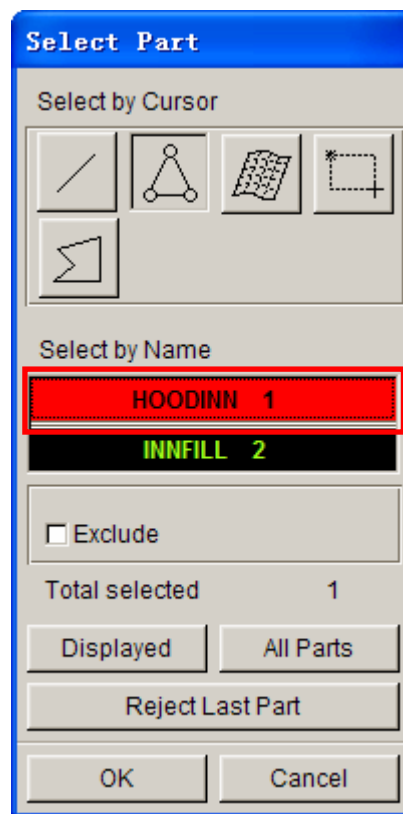

Figure 24 Select Part dialog box
2. Click **Select Part** button in the **Outer Smooth** dialog box. Select **HOODINN** in the **Select Part** dialog box, as illustrated in Figure 24.